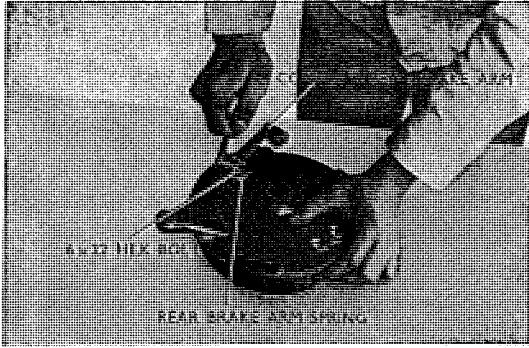

Fig. 4.92 Rear brake coupling
4. Fix the spring to the rear brake shoe, and fit the anchor pin, and cam to the shoe; install these parts to the brake pedal. Fit the 20×25 cotter pin, anchor pin setting washer and brake arm, and fix them with the 6×22 hex bolt. (Refer to Fig. 4.92)